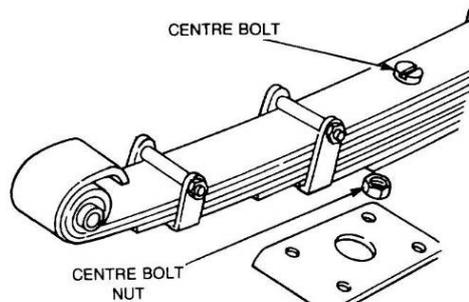

Figure 128 Replacement of the Centre Bolt
- c. Remove the centre bolt nut (Figure 128).